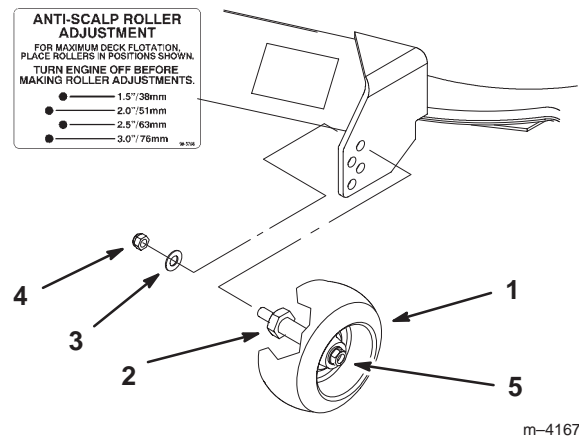

Figure 22
2. After adjusting the height-of-cut, remove the nut and washer while holding the stud with a wrench (Fig. 22).
Note: Do not remove the wheel nut and washer (Fig. 22).
3. Select a hole so that the gage wheel is positioned to the nearest corresponding height-of-cut desired (Fig. 22).
4. Reinstall the stud nut and washer (Fig. 22).